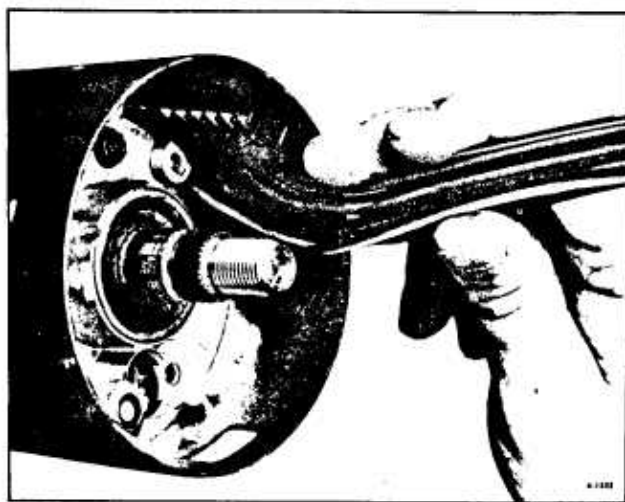
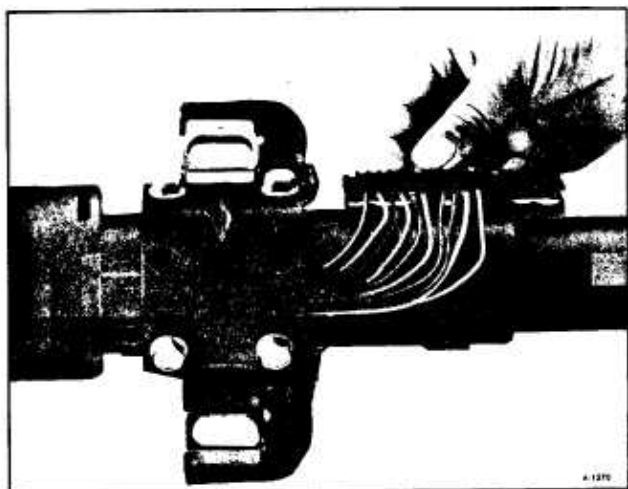

Figure 71—Removing Switch Assembly
Figure 88—Clipping Connector To Jacket Bracket
9. Pull the switch straight up, being careful not to snag the signal switch wire connector in the housing. (figure 71).
11. Replace the turn signal switch. Feed the connector (bend wires as shown in figure 71) down through the housing. Assemble the wires into the protector and the protector to the jacket. Hold I.P. bracket in place and drive four screws. Clip connector into bracket on jacket. (figure 88).